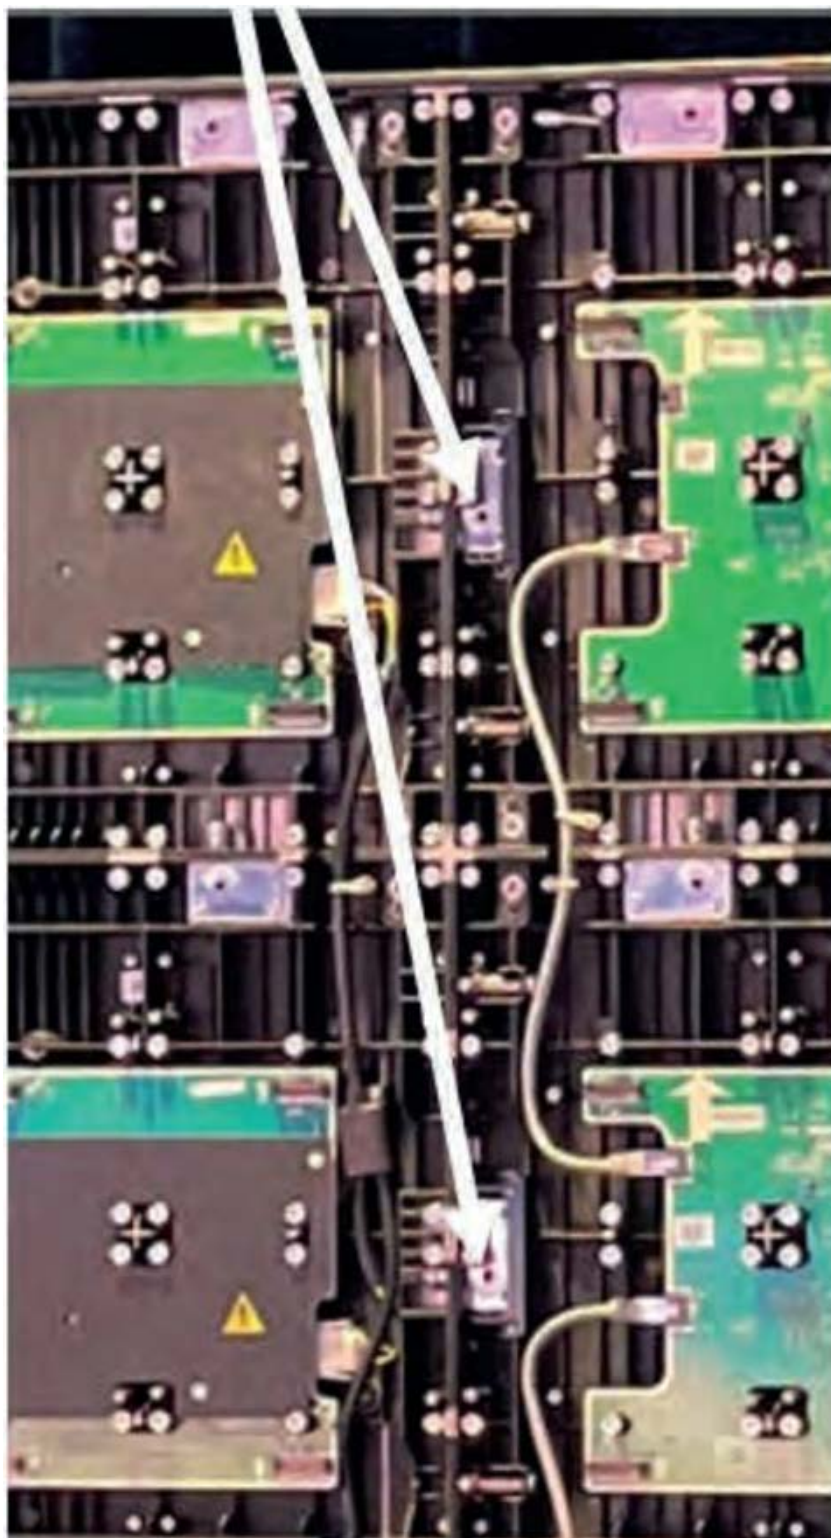

Figure 23
9. Secure the columns together by rotating the Side Hook Locks in each panel within each column with a hex wrench until the two adjacent columns are fully locked together (See Figure 23).